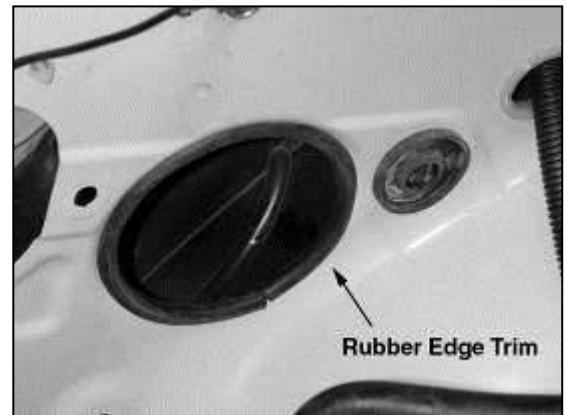

Fig. 8
**NOTE: The edge trim will need to be cut to size. (Fig. 8)**